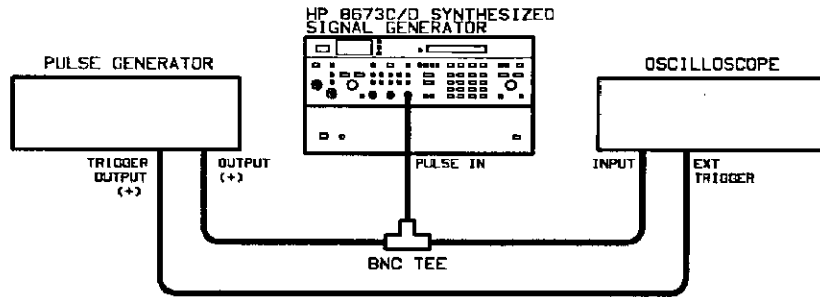

Figure 8-58. A5 Pulse Modulation Check Setup
37. Connect test equipment as shown in figure 8-58.